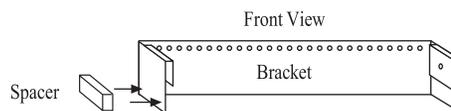

Fig. 3
5. Adjust the hinges as required to even out the gap between mirrors. See Figure 3.
5. Repeat steps 1 to 4 above until all desired cabinet bodies are installed. Then attach the door(s). See Figure 3
6. Adjust the hinges as required to even out the gap between mirrors. See Figure 3.